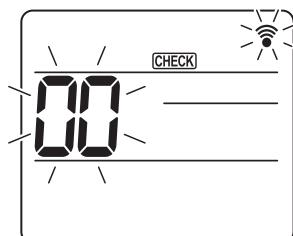
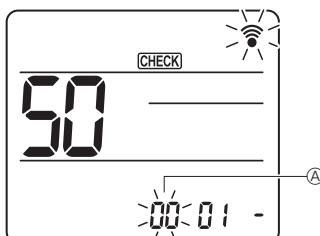
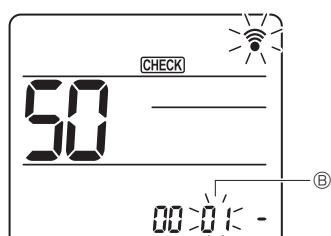
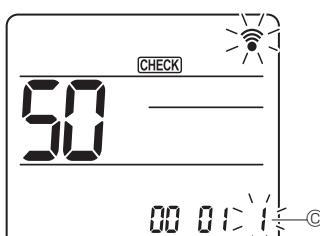

Fig. 7-16
Fig. 7-17
Fig. 7-18
Fig. 7-19
#### 7.4.2. By wireless remote controller (Fig. 7-16, Fig. 7-17, Fig. 7-18, Fig. 7-19)
[CHECK] is lighted and "00" blinks. (Fig. 7-16)
② Setting the unit number
Press the **[▼]** button to set unit number ①. (Fig. 7-17)
③ Select a mode
Press the **[▼]** button to set Mode number ②. (Fig. 7-18)
④ Selecting the setting number
Use the **[▼]** button to change the Setting number ③. (Fig. 7-19)